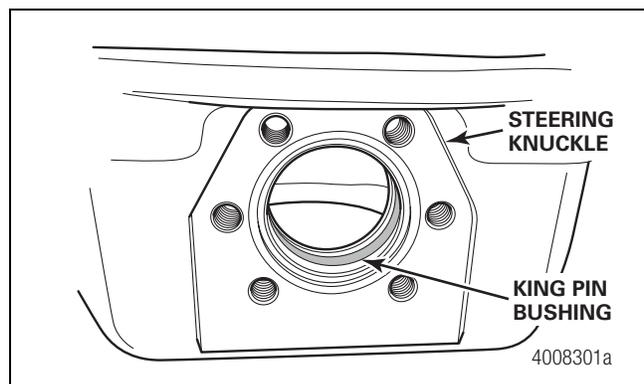

Figure 8.3
4. If removed, use a suitable driver and a hammer to install the upper and lower king pin bushings into the knuckle bores. The upper and lower bushings must be pressed in flush to the bore. Figure 8.3.